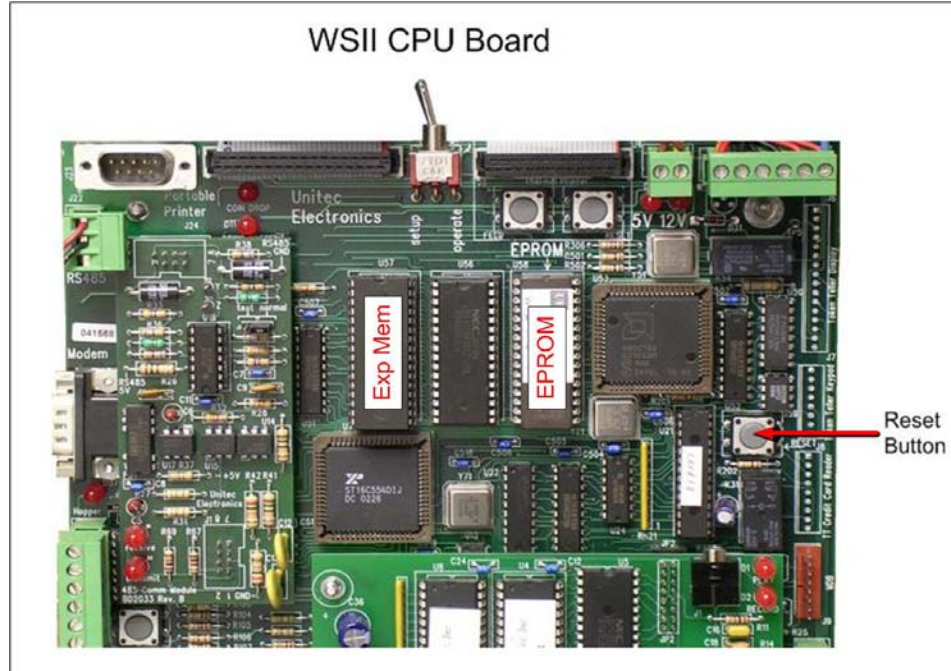

Figure 5. Wash Select II CPU Board
1. Remove the existing EPROM located at connection U58 on the CPU board (see Figure 5) by inserting a small flat-blade screwdriver between the EPROM and the socket and prying it off. Be careful not to damage the socket or the circuit board.